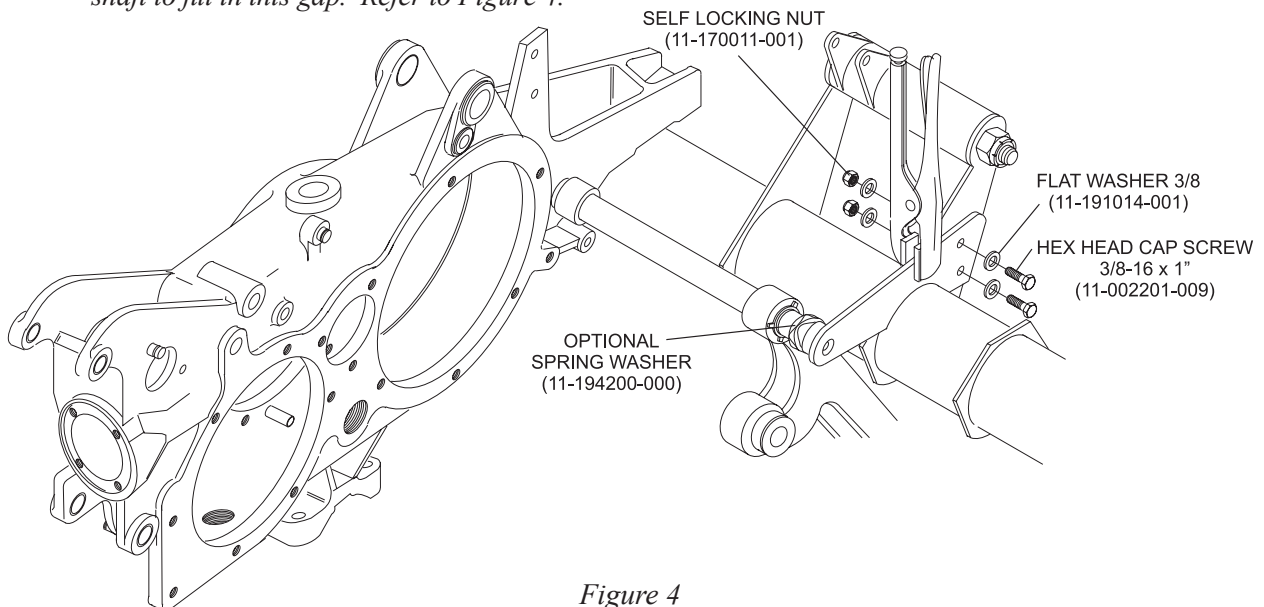

Figure 4
- Secure the support arm to the “ears” with the provided Hex Head Screws 3/8-16 x 1” (11-002201-009), Flat Washers 3/8 (11-191014-001), and Self Locking Nuts (11-170011-001). Refer to *Figure 4*.
NOTE: On die cast gear box housings, there may be a small gap between the rake cam follower and the collar on the support arm. The spring washer provided (11-194200-000) may be slid over the shaft to fill in this gap. Refer to *Figure 4*.